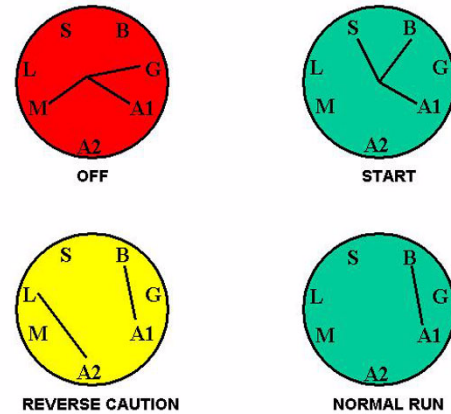

Figure 17.3
17.3. In the **OFF** position, continuity can be found between the M, G, and A1 terminals. See Figure 17.3.